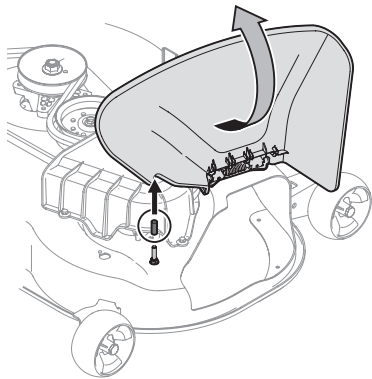

Fig. 3
1. Pivot the chute deflector upward and remove the protective cover from the pin found on the deck's surface. See Fig. 3.